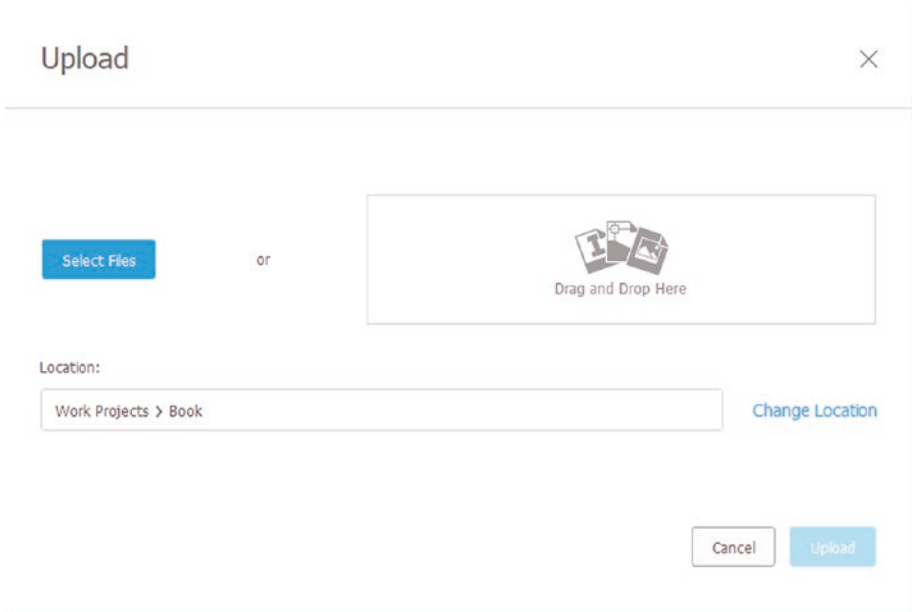

Figure 3-23. Drag and drop the STEP file or browse to the file
- 5. A pop-up window will appear, and you can drag and drop or select the STEP file you want to use in this project. See Figure 3-23.